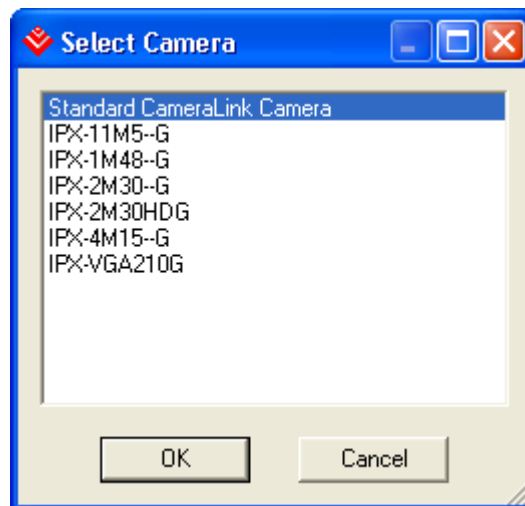

Figure 4: Select Camera Dialog
- **Select Camera...**: The Select Camera Dialog3, shown in Figure 4, is used to choose a camera implementation.